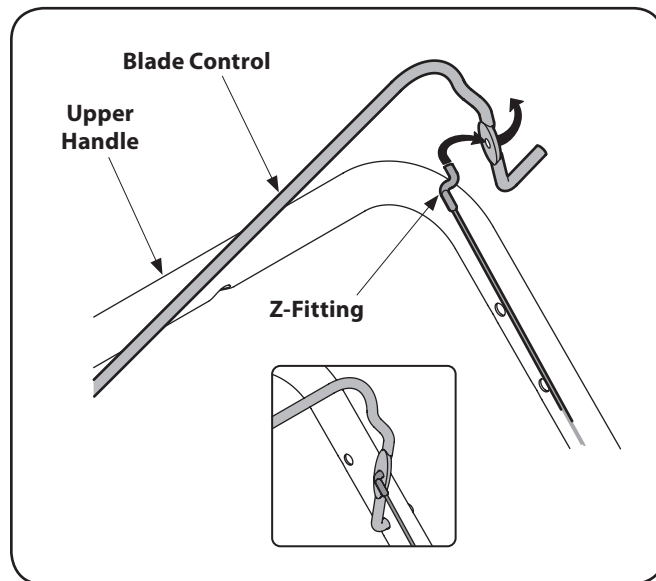

Figure 3-9
1. To make it easier to attach the Z fitting, temporarily remove the left side of the blade control as shown in Fig. 3-9.
2. Pull up on the Z end of the brake cable and hook it into the control from the inside to outside. See Fig. 3-9.